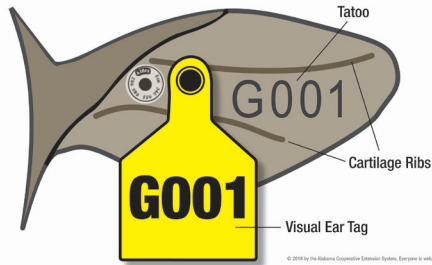

Figure 1. Ear tag
- Apply the tag in the middle rib of the ear at least halfway between the tip of the ear and the base of the ear (figure 1).
- Rub tattoo ink into the animal's ear in the middle rib. Note the location of the tattoo in figure 1. Ensure that the tattoo will not be placed into the hair of the outer ear. Use green ink for black-hided animals. Black or green ink is okay for nonblack-hided animals.